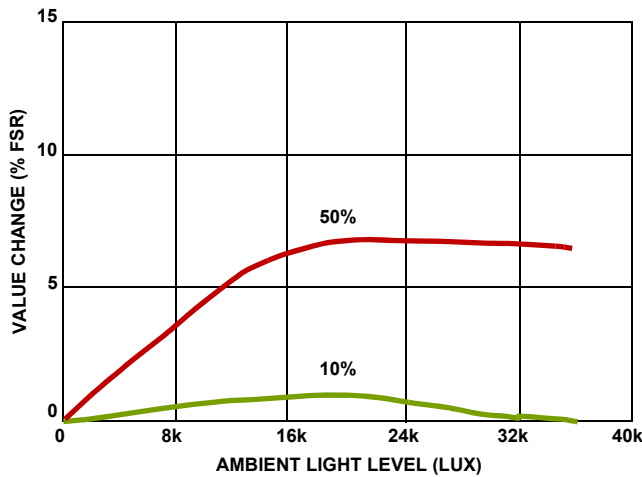

FIGURE 7. PROXIMITY AMBIENT LIGHT REJECTION (Note 13)
13. Figure 7 shows the ISL29147 Proximity Ambient Light Rejection using a Norwood Solar Emulator. At 40k Lux ambient light level, the Proximity Washout Count (Reg 0x0D[7:1]) is 127 indicating a saturation in Proximity Signal processing path. The Proximity Washout bit 0x0D[0] is active at approximately 90% of the maximum level. At 10% initial PROX count (due to optical leakage from IR LED to the ISL29147), the PROX data error is under 2%. At 50% initial PROX count (severe optical leakage), the PROX data error is about 7%.